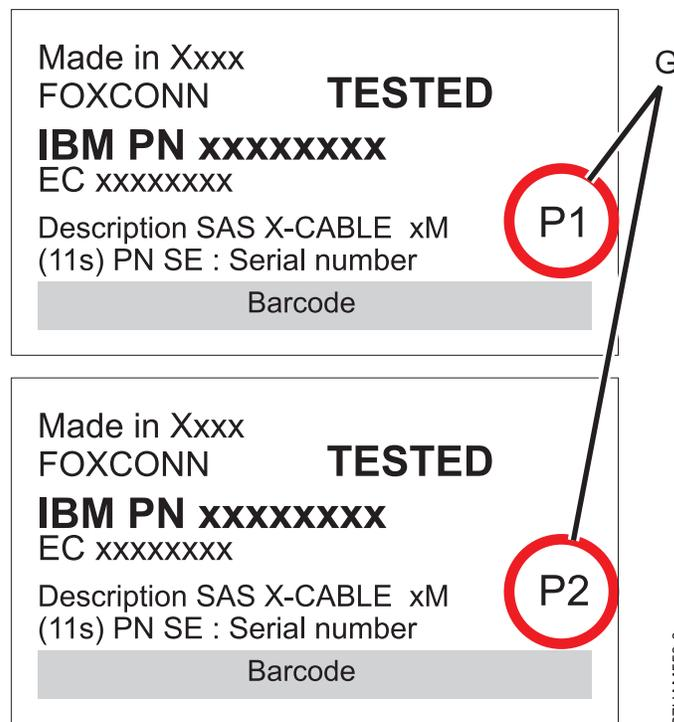

Figure 44. Labels for SAS adapter cables showing P1 and P2 identifiers
- The cable that plugs into independent SAS adapter 1 (C) contains a label with the P1 identifier (G), as shown in Figure 44 on page 76. This adapter does not have access to any other independent adapter and has access only to drive bays D1 - D6.
- The cable that plugs into independent SAS adapter 2 (D) contains a label with the P2 identifier (G), as shown in Figure 44 on page 76. This adapter does not have access to any other independent adapter and has access only to drive bays D7 - D12.
- The cable that plugs into independent SAS adapter 3 (E) contains a label with the P1 identifier (G), as shown in Figure 44 on page 76. This adapter does not have access to any other independent adapter and has access only to drive bays D13 - D18.
- The cable that plugs into independent SAS adapter 4 (F) contains a label with the P2 identifier (G), as shown in Figure 44 on page 76. This adapter does not have access to any other independent adapter and has access only to drive bays D19 - D24.